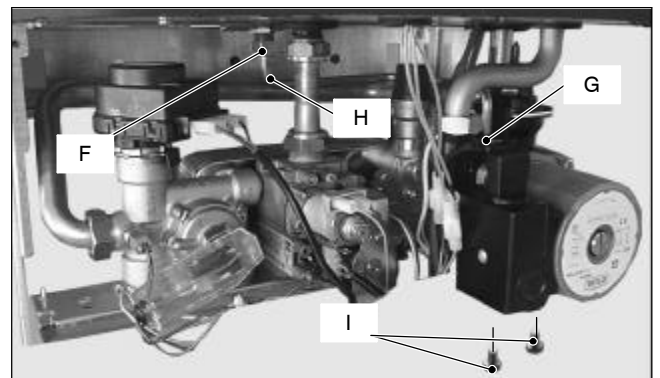

Fig. 19
- 9 Unscrew the two screws *I* that hold the pump on the frame (Fig. 19) and remove the pump towards the front of the boiler.